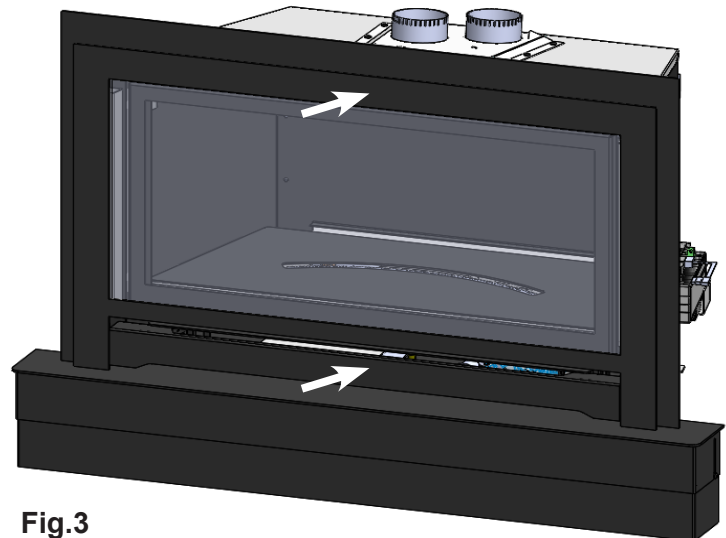

Fig.3
5. Reinstall Screen Shroud assembly. **(Fig.3)**